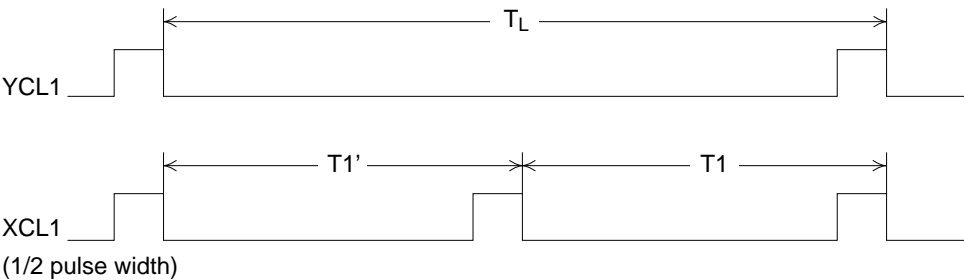

Figure 34 T_L, T1, and T1'
- GC8–GC0 bits: Specify the number of dots for T1; T1 is the period of XCL1 for 1/2 pulse width gradation display. When the total number of dots for one period of the YCL1 clock pulse cannot be divided by two for 1/2 pulse width gradation display, the remainder is added to T1 as T1', where $T1' = T_L - T1$ (figure 34).